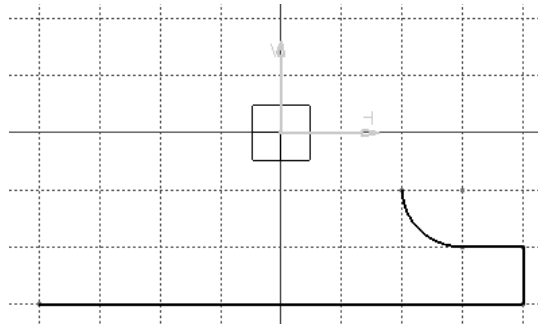

Figure 2-46 The sketch after drawing three lines and a tangent arc
- b. Draw the sketch of the model using the **Profile** and **Rectangle** tools, refer to Figures 2-46 through 2-48.
9. Move the cursor to the location whose coordinates are 20, -10 and specify the endpoint of the tangent arc; the **Line** mode is activated and the line is attached to the cursor again. Figure 2-46 shows the sketch after drawing three lines and a tangent arc. In this figure, the constraints are hidden for better visualization.